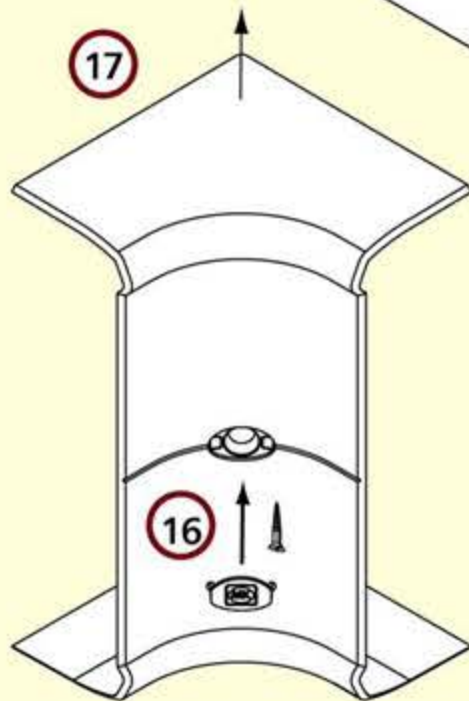

Figure 1
- 16 Determine whether corners need to be screw fixed (**Fig 1**). Continue to locate correctly the Corner and Joint covers and push them firmly until they snap into place. Fit the appropriate badge to the Corner Covers.